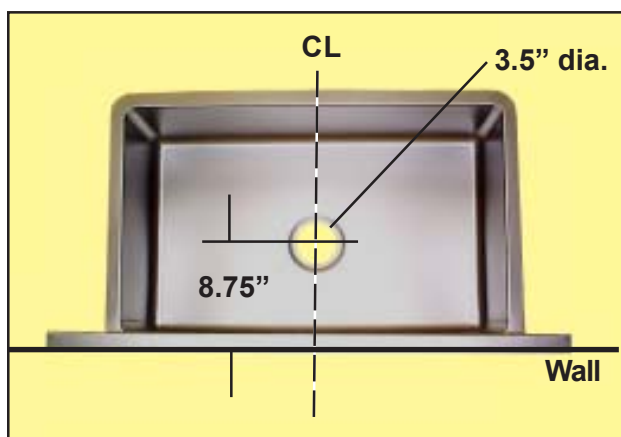

Figure 4. Top View of Sink Showing Drain
2. Pipe in the drain line (Figure 4). Remember to leave space under the sink for the foot or knee-activated valve as necessary. The drain aligns vertically with the faucet, and is about 8.75-in. (22.23 cm) out from the wall. The drain hole is 3.5-in. (8.89 cm) in diameter.